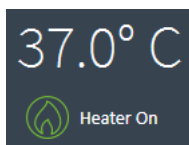

Figure 9 Temperature widget.
- 1 Click the temperature widget. (See **Figure 9**.)